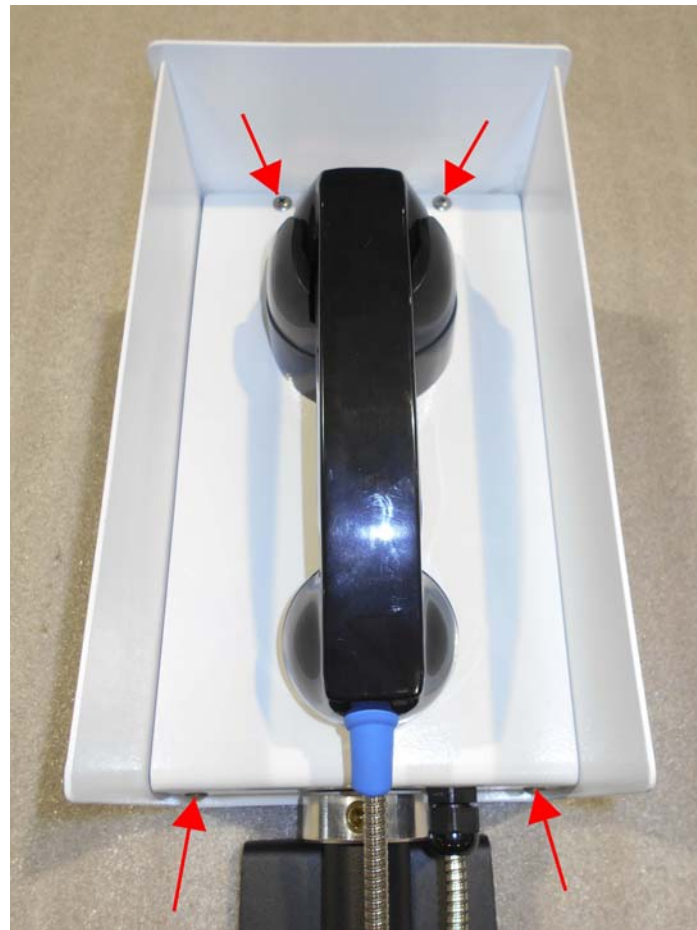

Fig. 2
4. Remove the (4) truss head screws that secure the hook switch/cradle to the front plate, and then remove the hook switch and attenuator/volume pot. (See Fig. 2)
5. Remove the (2) nuts holding the strain relief bracket to the housing front plate, and then disconnect and remove bracket. (See Fig. 2)
6. Remove the handset cable strain relief nut, and then remove the cable and strain relief. (See Fig.2)